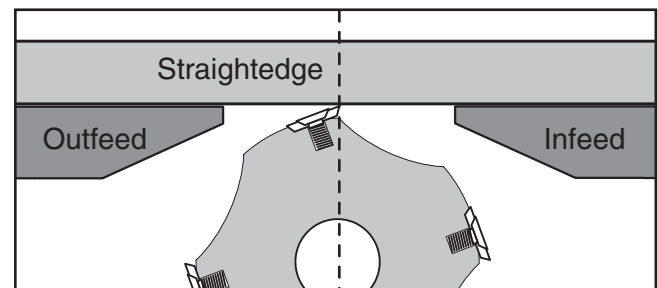

Figure 56. Infeed table adjusted even with outfeed table.
4. Adjust the infeed table until it is level with the outfeed table, as illustrated in **Figure 56**.